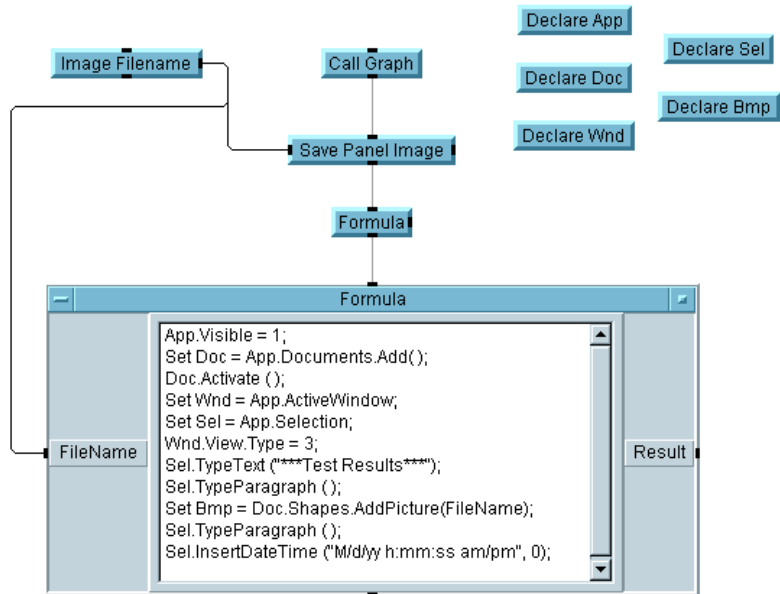

Figure 165 Adding the ActiveX Statements
- 8 Click **Device** ⇒ **Formula** and enter the statements shown in Figure 165, which are also described below. Rename input terminal **A** to **FileName**. Connect the data input and sequence input pins as shown in Figure 165.
In Figure 165, notice that you can nest property and method calls together with the Object's dot notation. Refer to ActiveX documentation to find the right properties in the target applications. You can use the properties and methods described in this chapter to begin generating test and measurement reports. The entries in the Formula object are as follows: